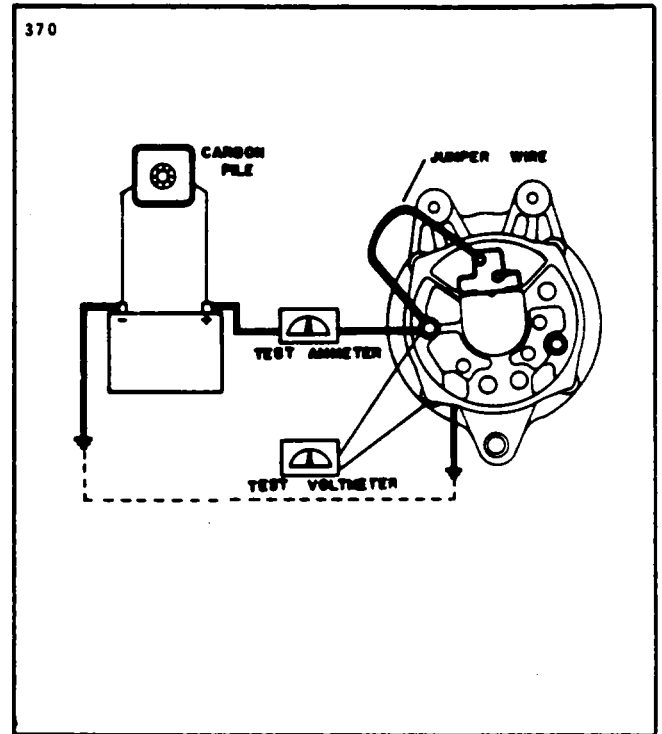

Figure 24-13. Testing Alternator
1. Wiring connections for bench testing the alternator are shown in Figure 24-13. Refer to the individual specification pages for output test figures. Adjust the carbon pile, if necessary, to obtain the specified voltage.